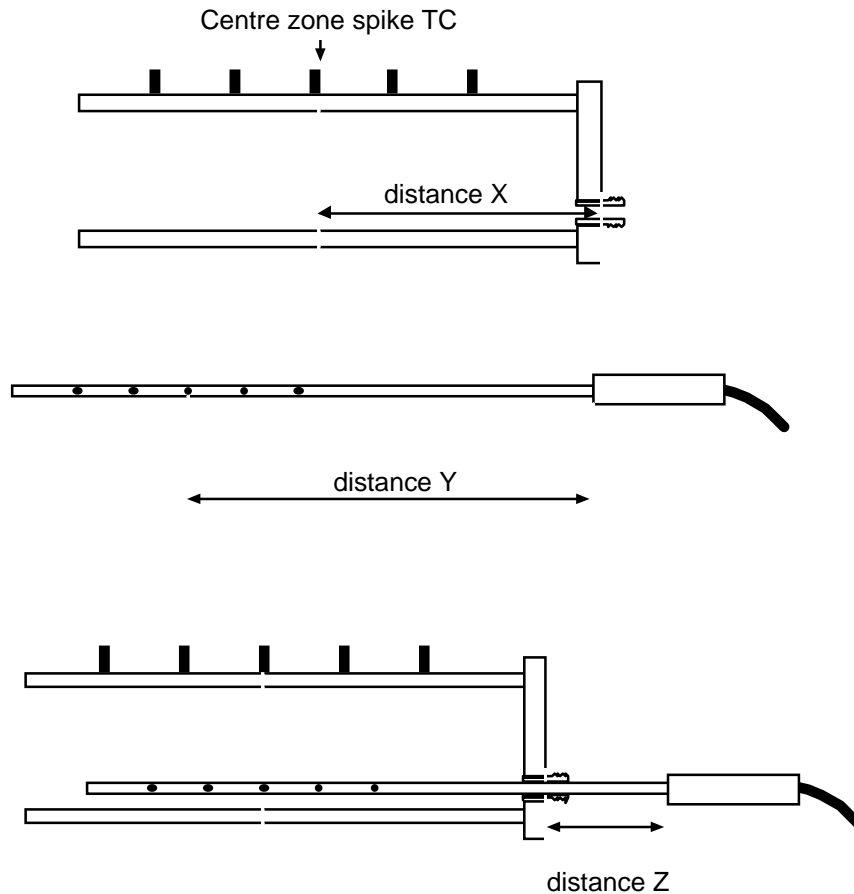

Figure 6-2 Aligning the Calibration TC Rod
2. Insert the calibration TC rod the correct distance into the tube. The method for doing this is explained below. Figure 6-2 shows the distances.